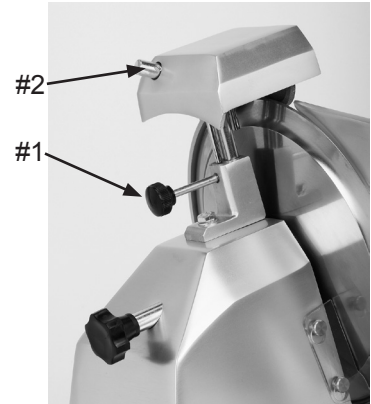
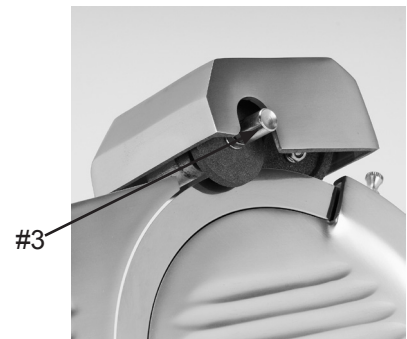

Figure 12-1
Figure 12-2
2. Push the grinding stone button #2 (Fig. 12-1) and the honing stone button #3 (Fig. 12-2) at the same time so both stones make contact with the knife. Maintain pressure on the buttons for 5-10 seconds.
2. Push the grinding stone button #2 (Fig. 12-1) so the stone sharpens the back side of the knife. Maintain pressure on the button for 30 seconds.
3. Push the grinding stone button #2 (Fig. 12-1) and the honing stone button #3 (Fig. 12-2) at the same time so both stones make contact with the knife. Maintain pressure on the buttons for 5 seconds.